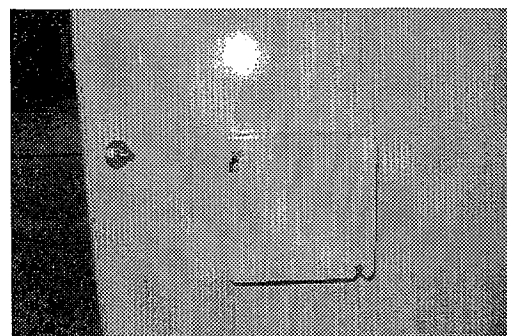

Figure 17
12. Bring power (proper voltage) to 4" box mounted on lower section of lift. See Figure 17.